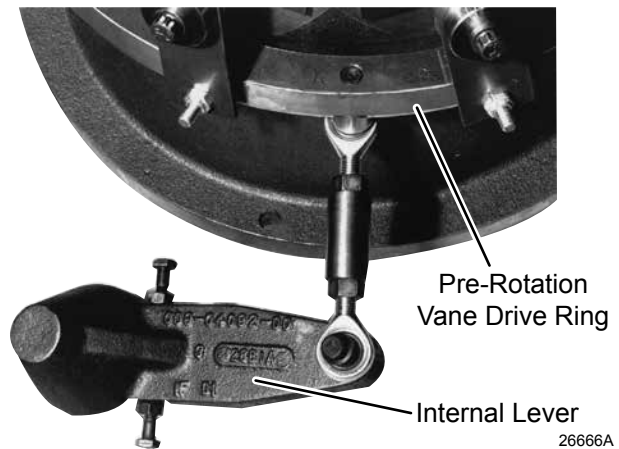

FIGURE 60 - INTERNAL PARTS - PRE-ROTATION VANE ASSEMBLY
1. Remove the 12 pt. head cap screw and fill piece to disconnect the adjustable bearing rod from the vane driving ring. See *Figure 60 on page 48*.